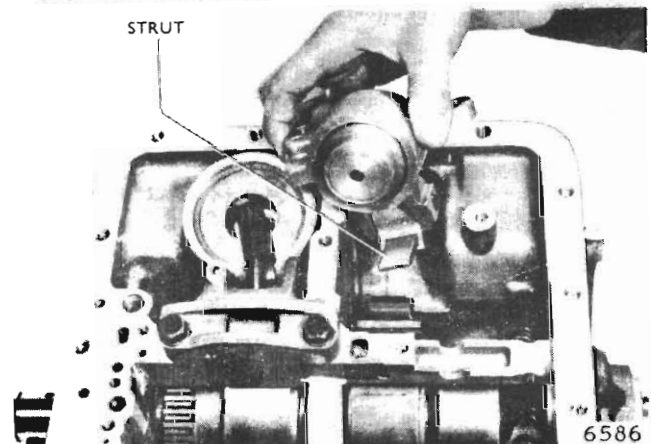

Fig. 53 - Installing the front servo assembly (typical view)
(1) Attach the strut to the front servo lever using petroleum jelly (vaseline) positioning the strut to obtain correct assembly of these components. Refer to Fig. 53.
(2) Install the retaining bolts, note the rear bolt is the longer and tighten evenly to 10-15 lbs. ft. torque.